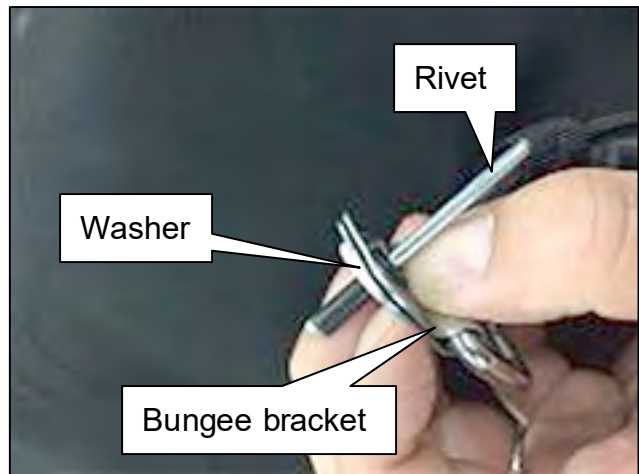

Figure 13
14. Assemble a rivet and a washer (WASH-SPL) onto a bungee bracket (WIRE-HDLNG) as shown in Figure 13.